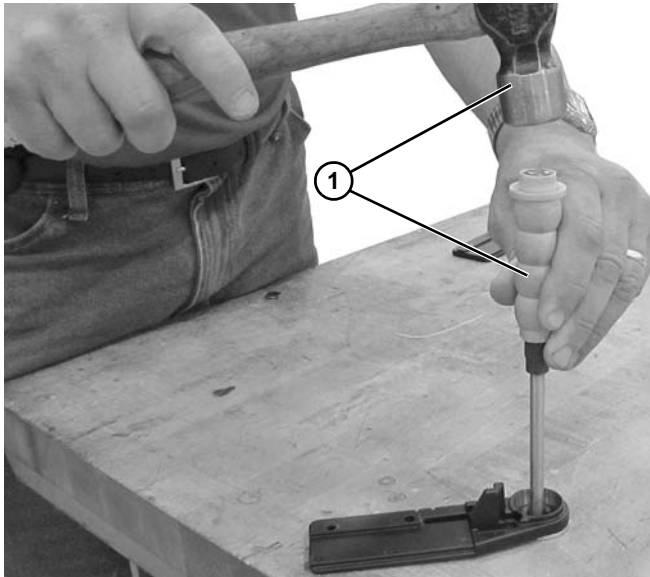
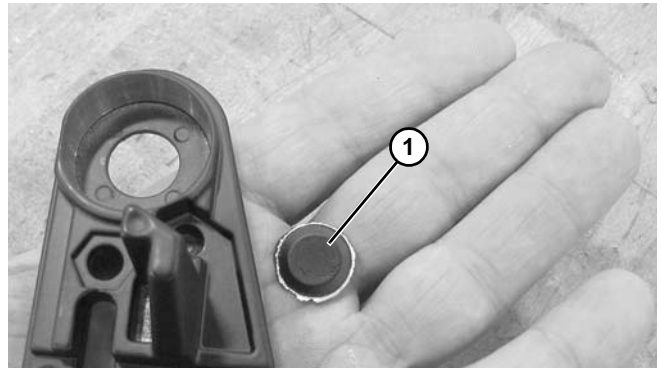

Figure 93
Figure 94
3. Use a hammer and punch (6 mm - 13 mm diameter) (**Figure 93, item 1**) or long bolt to knock out slug (**Figure 94, item 1**) for shaft backing up tail plate with washer.